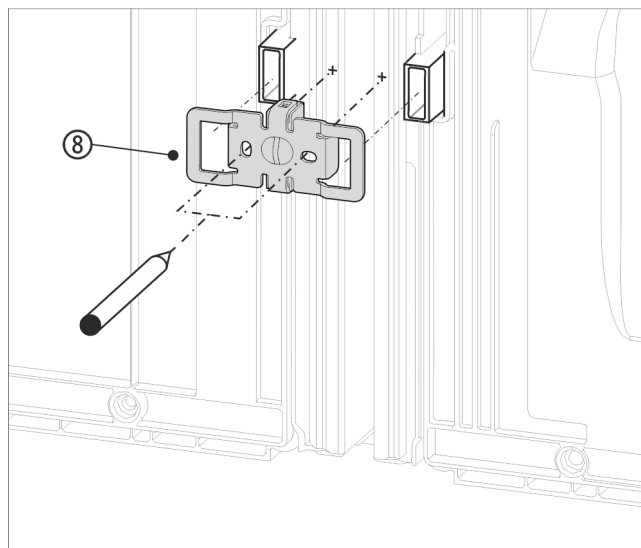

Fig. 17 Example illustration
- Slide the bracket Fig. 17 (8) on with the slots over the retainer for the wall spacers.